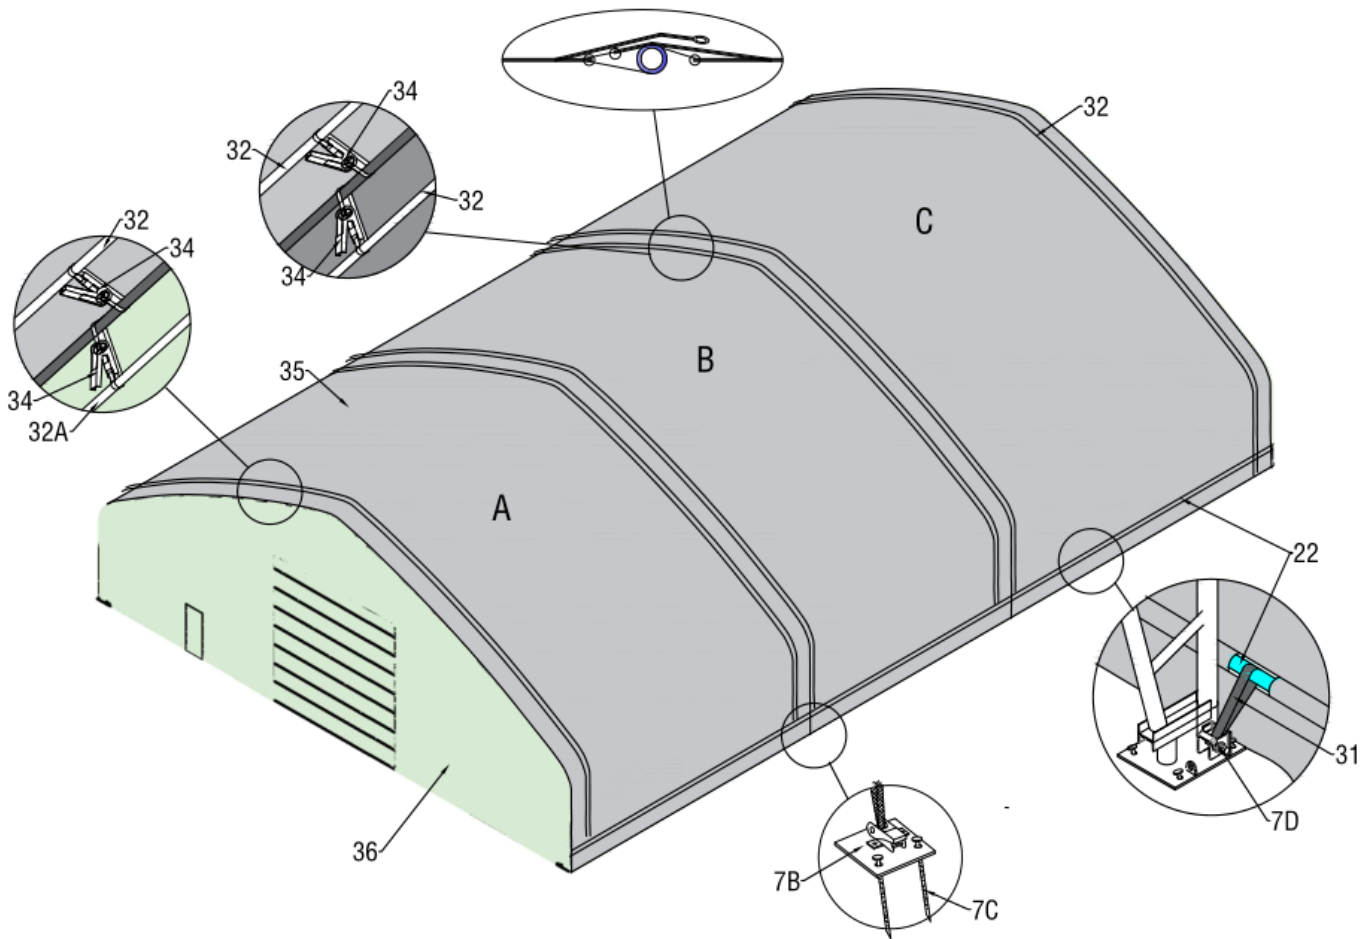

Figure 13
4. As Figure 13 shows, when three pieces of roof cover is over top of frame assembly, insert the PPR tube (No.32) into pockets along sides of roof cover, find the small ratchet (No.34) to connect on PPR tube in roof cover by parts.